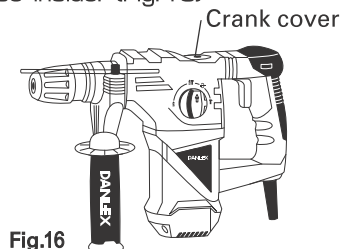

Fig.16
■ Disassemble the crank case cover and thoroughly wipe off the old grease inside. (Fig.16)